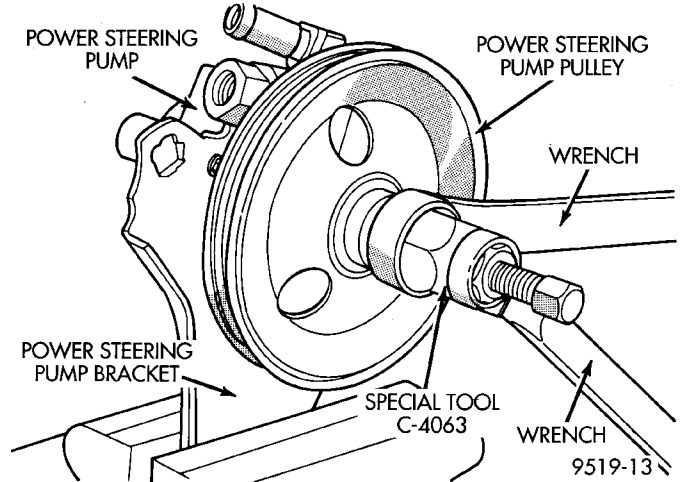

Fig. 41 Installing Pulley On Power Steering Pump Shaft
(2) Place power steering pump pulley squarely on end of power steering pump shaft. Mount Installer, Special Tool C-4063 in internal threads of the power steering pump shaft and against power steering pump pulley (Fig. 41).